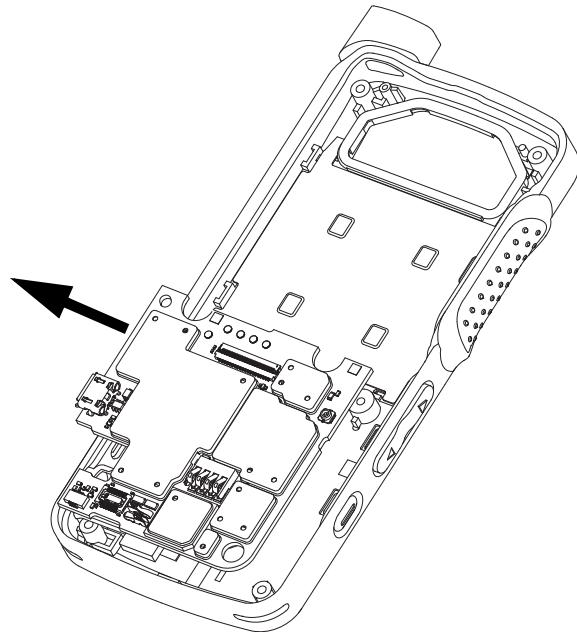

Figure 5-16. PCB board removal
4. Remove the main PCB from the front housing by unlatching its flex connector tab as shown in Figure 5-16.